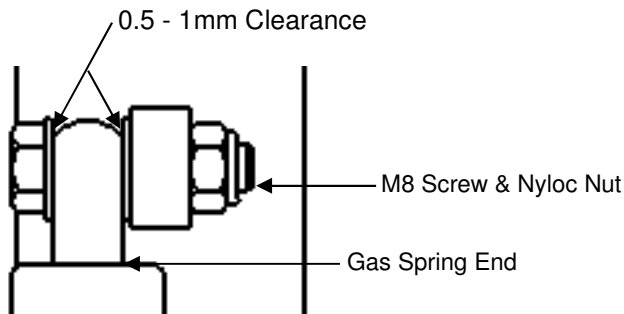

Figure 9.4.3.7 Gas Spring Alignment Clearance
18. Grip the Brake Cable Cable End with pliers and tighten the M4 Nyloc Nut until it contacts the edges of the Brake Arms. If required, prise the Brake Arms apart and activate Brake Lever until the M4 Nyloc Nut "jumps" between the Brake Arms and locates against the Brake Arm Clevis Pin. See Figure 9.4.3.6.